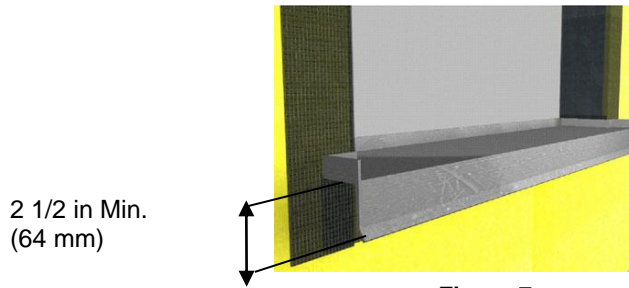

Figure 7
- a. Install a watertight pan flashing at all sill locations - Figure 7.
- c. The flashing shall extend a minimum of 2 1/2 in (64 mm) down over the face of the Outsulation System Figure 7.